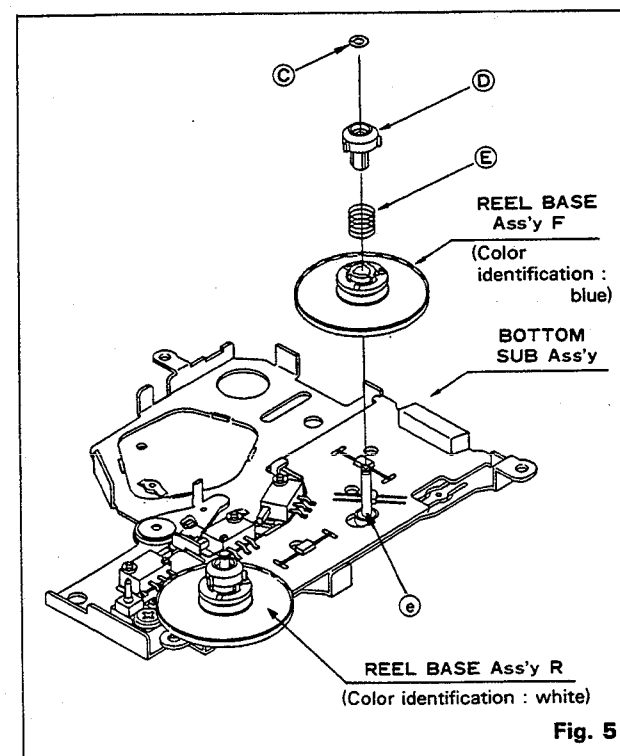

Fig. 5
- (4) Replacement of reel base ass'y (Refer to Fig. 5)
- (a) Remove the special washer (C) ($\phi 3.2$ split).
- (b) Remove the slide bushing (D) and slide spring (E).